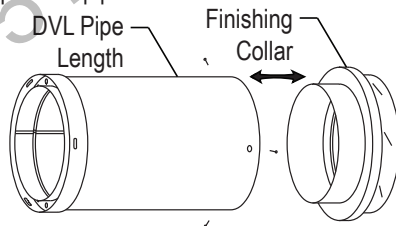

Figure 5
2. Attaching DVL to a Finishing Collar (Figure 5)